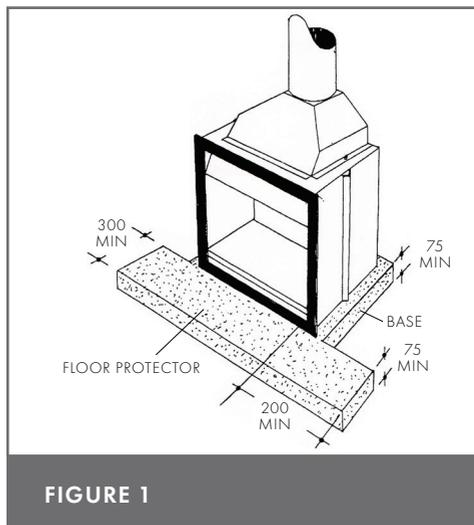

FIGURE 1
2.1. BASE & FLOOR PROTECTOR REQUIREMENTS (FIG 1)
1. Position unit on finished hearth base. Do not restrict air intake at base of unit (refer "2.1. Base & Floor Protector Requirements (Fig 1)" on page 2).